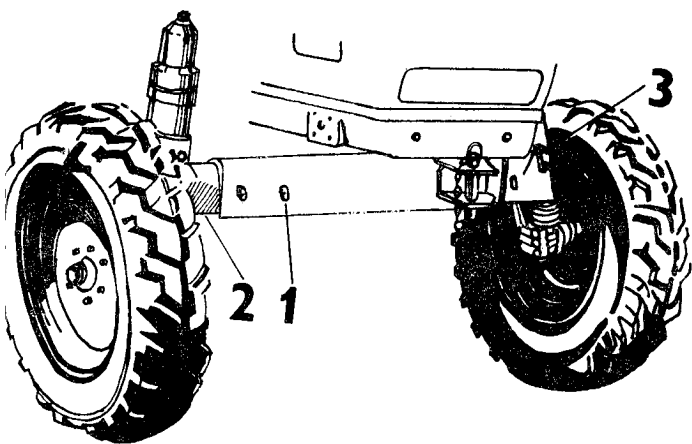

Fig. 15
The change of the front wheel track (Fig. 15) should be carried out in the following way:
2. Unscrew nuts (Fig. 15/1) from bolts of the front axle extensions and remove the bolts.
4. Pull out a little both extensions (Fig. 15/2) untill the required wheel track is attained and lock them again with bolts and nuts.